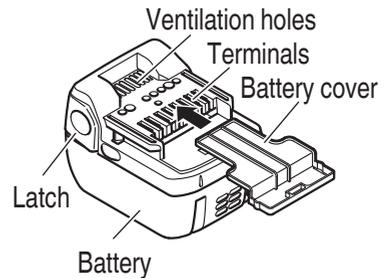

Fig. 1
- Either install the battery in the power tool or store by securely pressing into the battery cover until the ventilation holes are concealed to prevent short-circuits. (See Fig. 1)